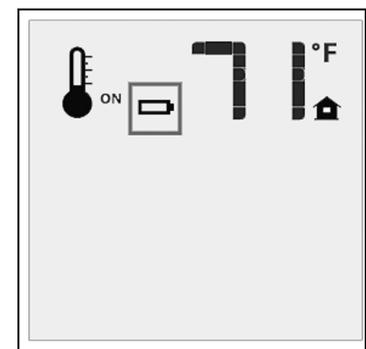

Figure 16: Low Battery
**Transmitter:** The life span of the remote control batteries depends on various factors: quality of the batteries used, the number of ignitions of the appliance, the number of changes to the room thermostat set point etc. When the Transmitter batteries are low, a Battery Icon will appear on the LCD display of the Transmitter (see Figure 16) before all battery power is lost. When the batteries are replaced this icon will disappear.